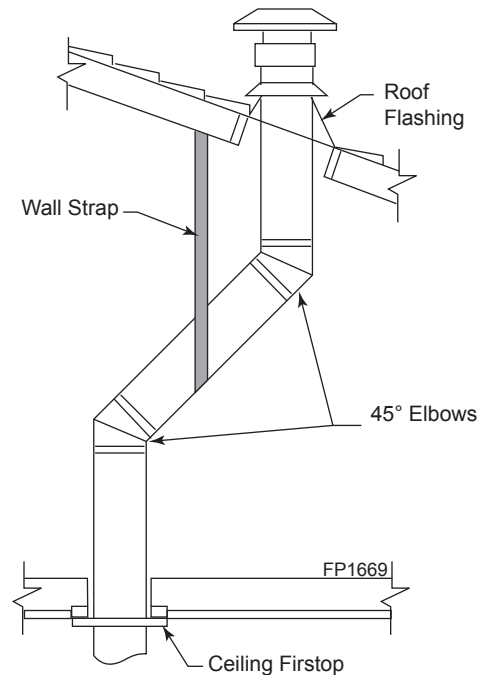

Figure 37 -
NOTE: If an offset is needed to avoid obstructions, you must support the vent pipe every three (3) feet. Use wall straps for this purpose. Refer to *Page 26, Figure 37*. Whenever possible, use 45° elbows instead of 90° elbows. The 45° elbow offers less restriction to the flow of the flue gases and intake air.